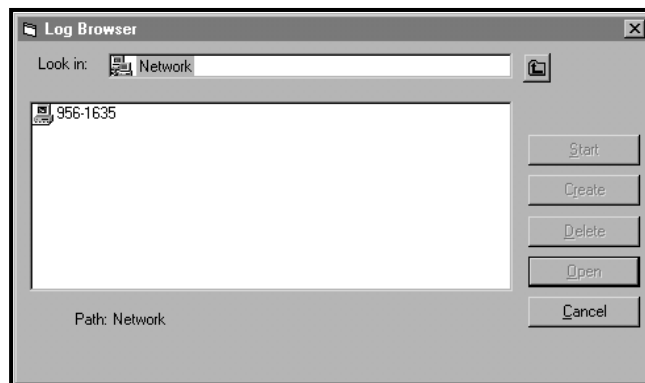

Figure 14: Computer Selection
- Click on the *Log Browser* option. The dialog box shown in Figure 14 appears.